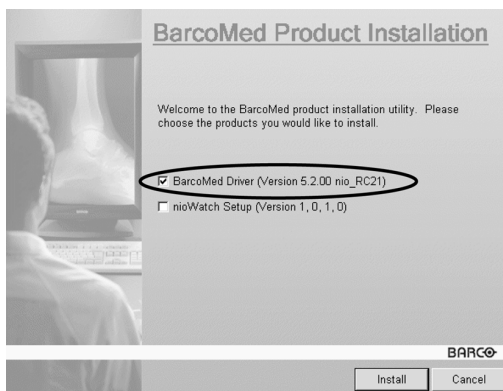

Figure 59
3. To update the driver, clear the checkbox next to **“NioWatch Setup”** (figure 59) and click **“Install”**.